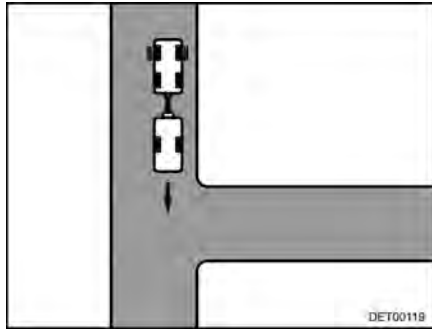

Fig. 13 Approach
- Drive up to the entrance until the rear of the caravan is roughly level with the entrance (Fig. 13).